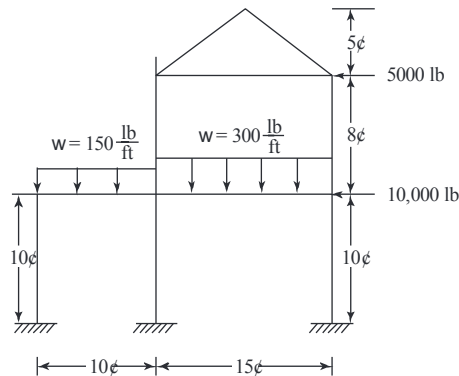

Figure P5-62
- 5.62** A two-story building frame is to be designed as shown in Figure P5-62. The members are all to be I-beams with rigid connections. We would like the floor joists beams to